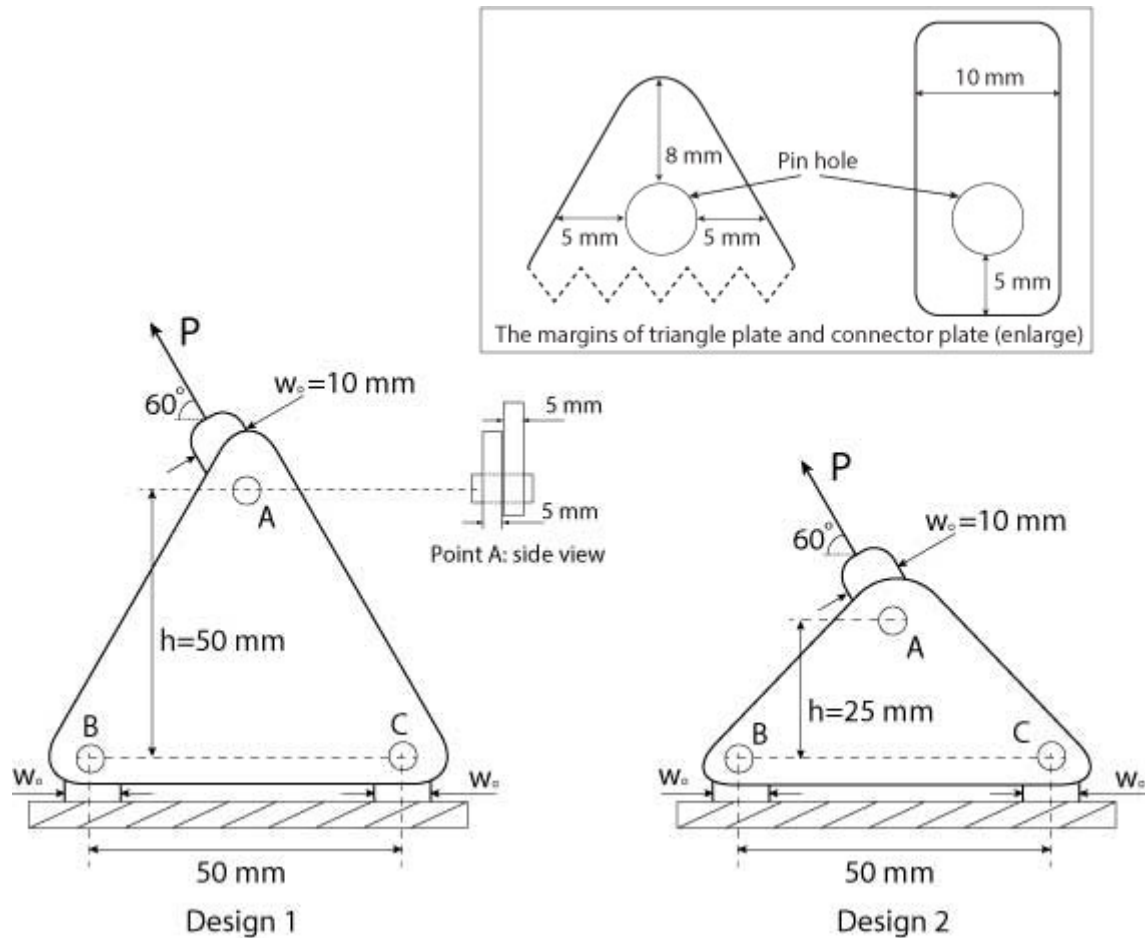

Figure 1
1. In Figure 1, two designs of the triangle plates with 5 mm thickness are subjected to load P applied at point A using connector plates and pins. All the three pins with 5 mm diameter at points A, B and C are single shear pins. The specifications for the triangle plate, the pins and the connector plates require that the normal stress, shear stress and bearing stress not to exceed 100 MPa, 50 MPa and 100 MPa, respectively.